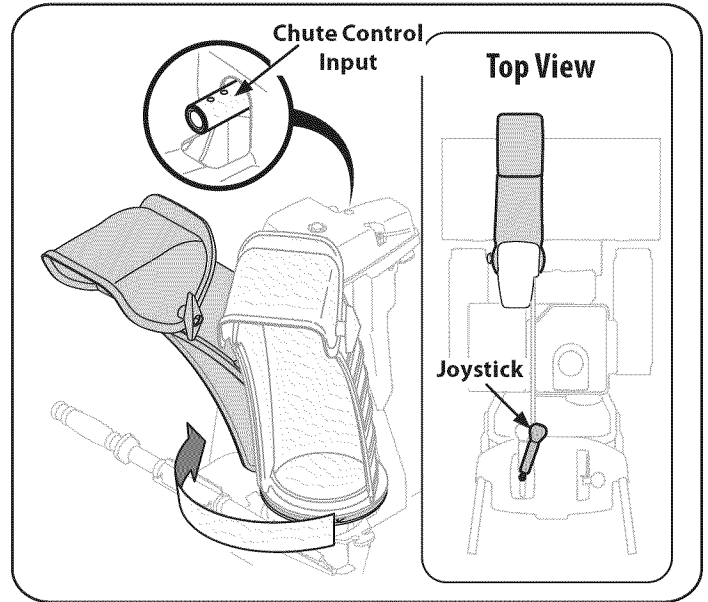

Figure 5
- Squeeze the trigger on the handle panel joystick and rotate the chute by hand to face forward. The holes in the chute control input will be facing up. See Figure 5.
NOTE: The joystick will be angled slightly to the right. See Figures 5 & 6.